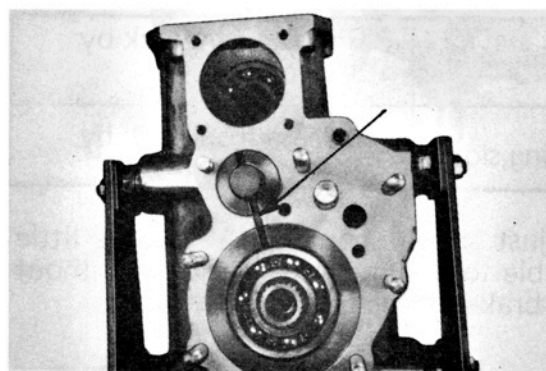

Fig. 3-22.
- 6) Make sure to have the output rear bearing bush stopper groove correctly aligned with the groove in the transfer case when installing the transfer output rear shaft as shown in the Fig. 3-22.